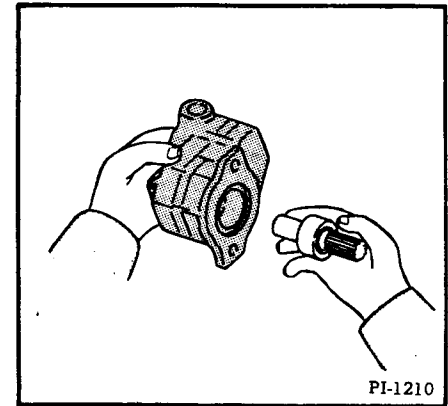

Fig. 27 Pulling Drive Shaft From Pump
(3) Pull the pump drive shaft out of the pump (Fig. 27). The ball bearing will come with it.